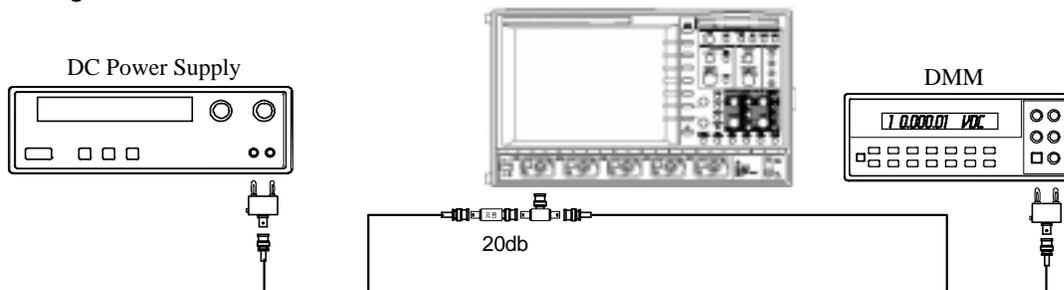

Figure 5-2: DC 1MΩ Accuracy Equipment Setup for 100 mV/div
- For 50 mV/div & 100 mV/div, connect the test equipment as shown in Figure 5-2.